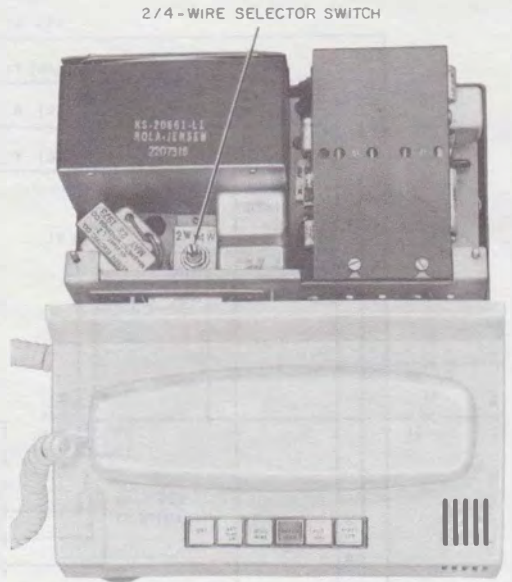

Fig. 6—73B Control Unit, Rear Housing Removed
**3.08** When 4-wire operation is required, remove the rear housing assembly and with a screwdriver rotate selector switch to the 4W position (Fig. 6). The transmit line should be connected to the T and R leads from the control unit and the receive line should be connected to the T1 and R1 leads.
4.12 An internally mounted switch (Fig. 6) allows easy selection between 2- or 4-wire mode of operation. In the 4-wire mode, transmit and receive channels are each connected through separate pairs of the telephone line.